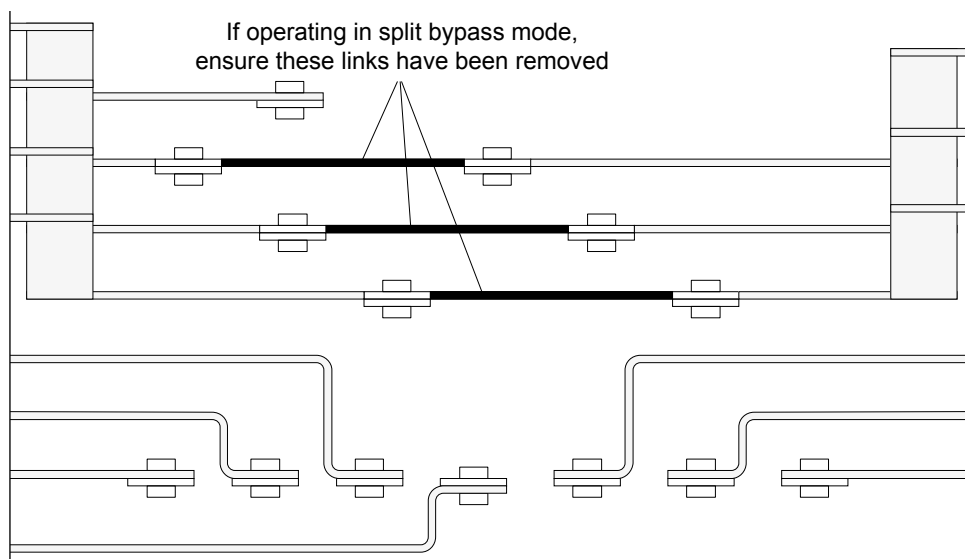

Figure 16 Split bypass links
- a. Check that the split bypass links have been removed (Figure 16).